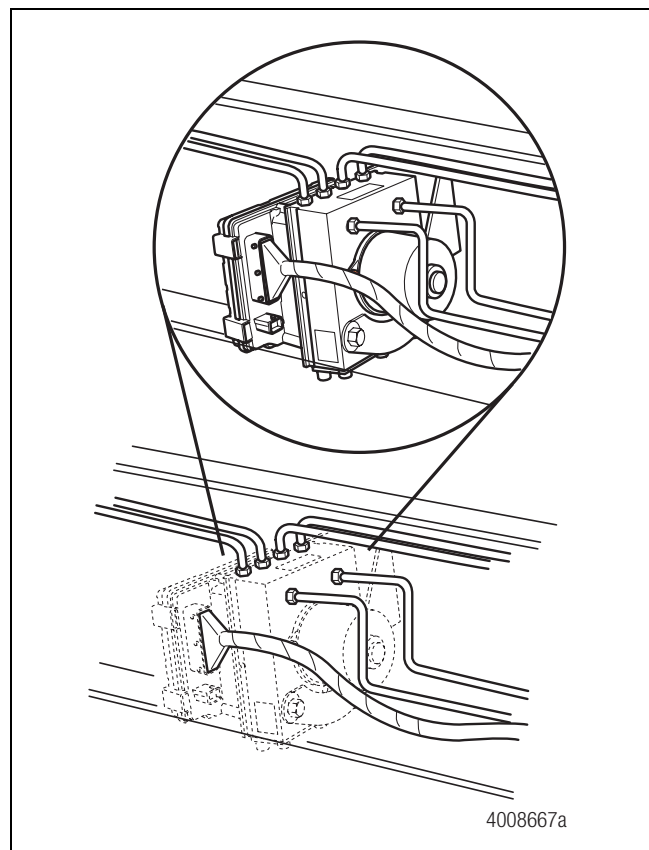

Figure 4
5. Reinstall the brake lines and tighten fittings to OEM specification. Figure 4.